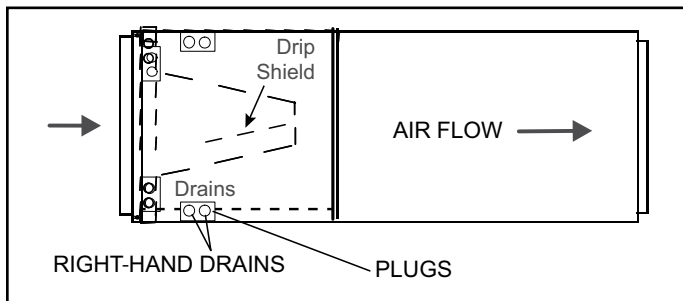

Figure 11. Right-Hand Discharge Configuration
4. The horizontal configuration is shown in Figure 11.